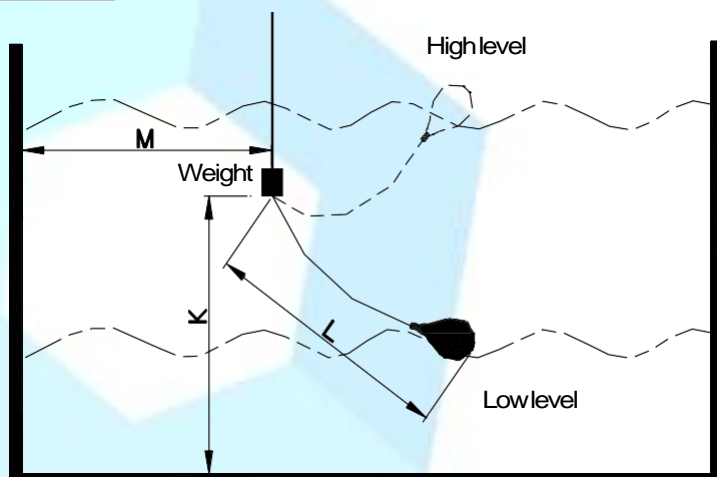

Figure 1
1. Shown as Fig. 1, the movement weight and float body installation requirements: $K > L$ and $M > L$, to prevent the float body to crash against side wall or bottom of tank, sink and result in failure of the float.